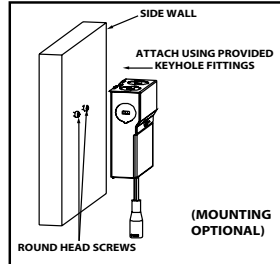

Figure 4
- **MUST follow local electric code for rigid attachment and placement of the remote driver box. (Figure 4)**